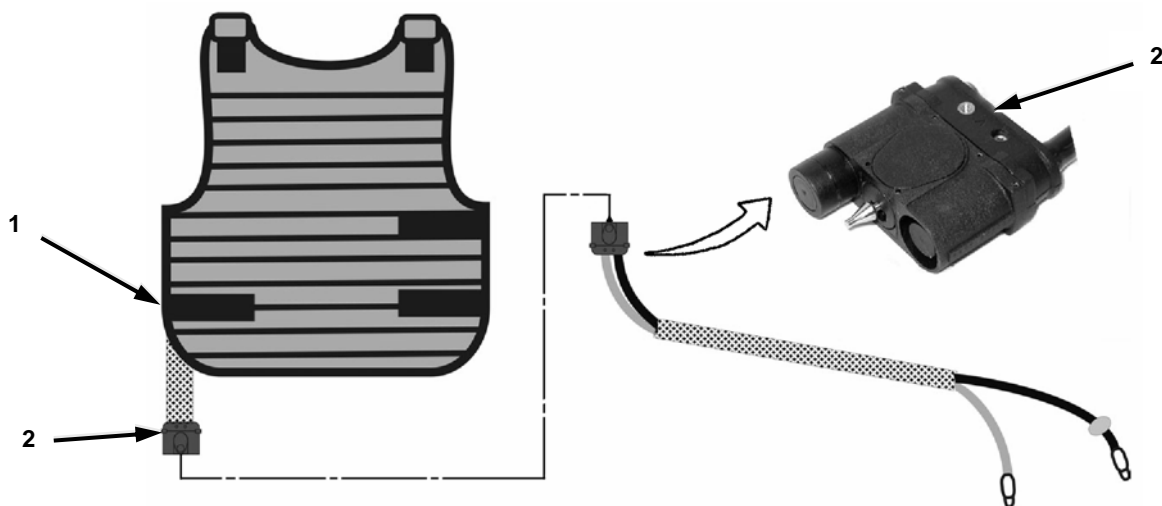

Figure 2-22. Latch Tether for Charging MCG.
Step 1 below applies to Figure 2-22.
1. Connect latch tether (2) to MCG (2-11-001-4, 2-11-001-5, or 2-11-001-6) (1).